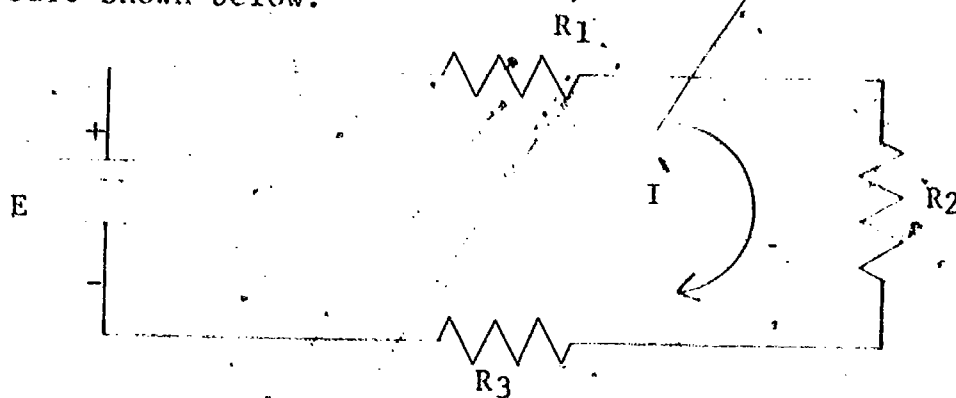

Figure 3 - Simple Series Circuit
8. Using the three resistors of steps 2 and 6, and a supply voltage of 10 volts, connect them as shown in Figure 3.